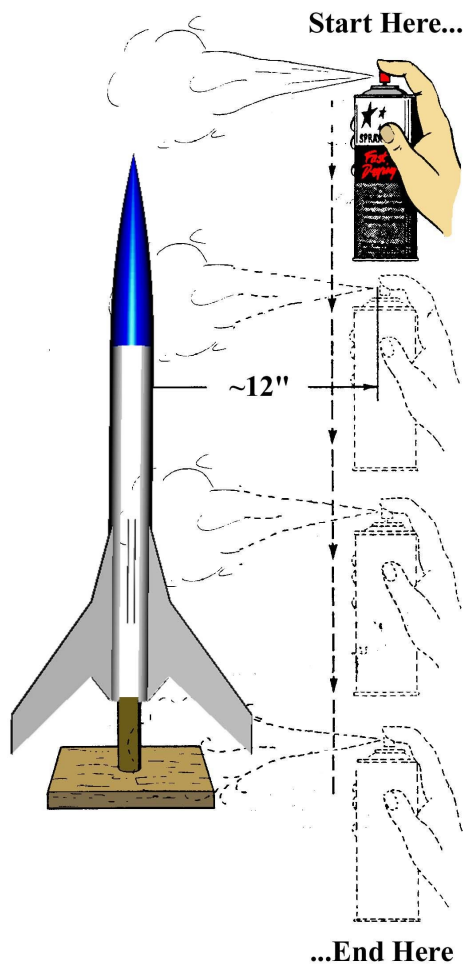

Figure 9
- **Step 19** The illustration in Fig. 9 shows the correct method for spraying your model, regardless of the equipment used. Keep the tip about 12" away from the model, and use a top-to-bottom spray pattern – **never** spray from side-to-side, or from bottom-to-top – to avoid runs in the spray. Use this technique for applying